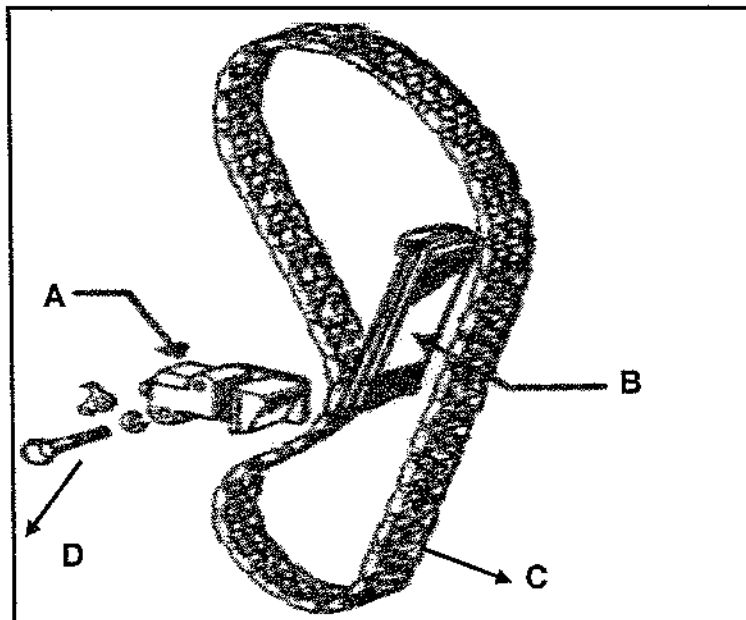

FIGURE 1
1.3 FIGURE 1 below, shows a component of an engine. Name the parts marked (A–D) in the ANSWER BOOK.